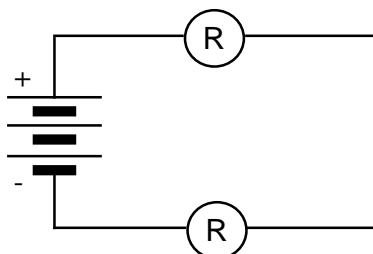
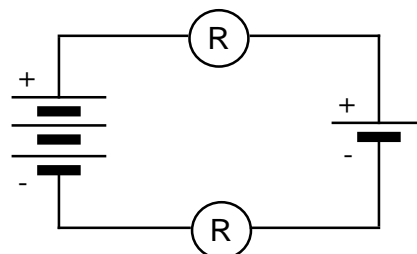

Figure 4.1a
Figure 4.1b
Begin with a circuit that has one 3-cell battery, a compass and 2 round bulbs (Figure 4.1a). Observe the compass deflection.
Next add an opposing battery – one that is oriented in the opposite direction. The battery holder should contain only 1 cell. (Figure 4.1b) Predict what you will observe when you complete the circuit in Figure 4.1b.
1. Draw arrowtails on Figure 4.1a to indicate standard flow rate through each bulb, and starbursts to show standard brightness for each bulb. Then draw arrowtails and starbursts on Figure 4.1b to represent what you observed. How do the brightnesses and flow rates differ from Figure 4.1a?